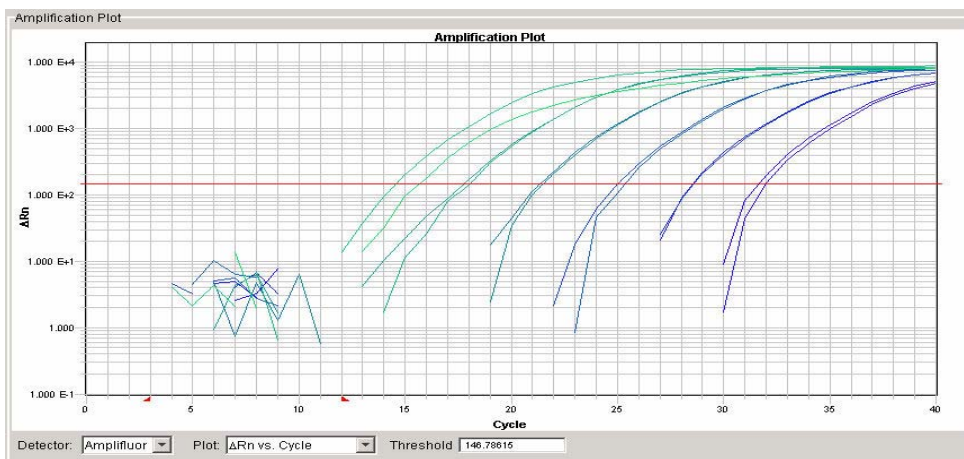

Figure 2 Amplification Plot
- An amplification plot of the Control Template Dilutions (10^6 to 10^1 target copies per reaction) and No Target Control is presented in Figure 2. No signal is observed for the No Target Control; therefore, all C_t values for target dilutions are significant.